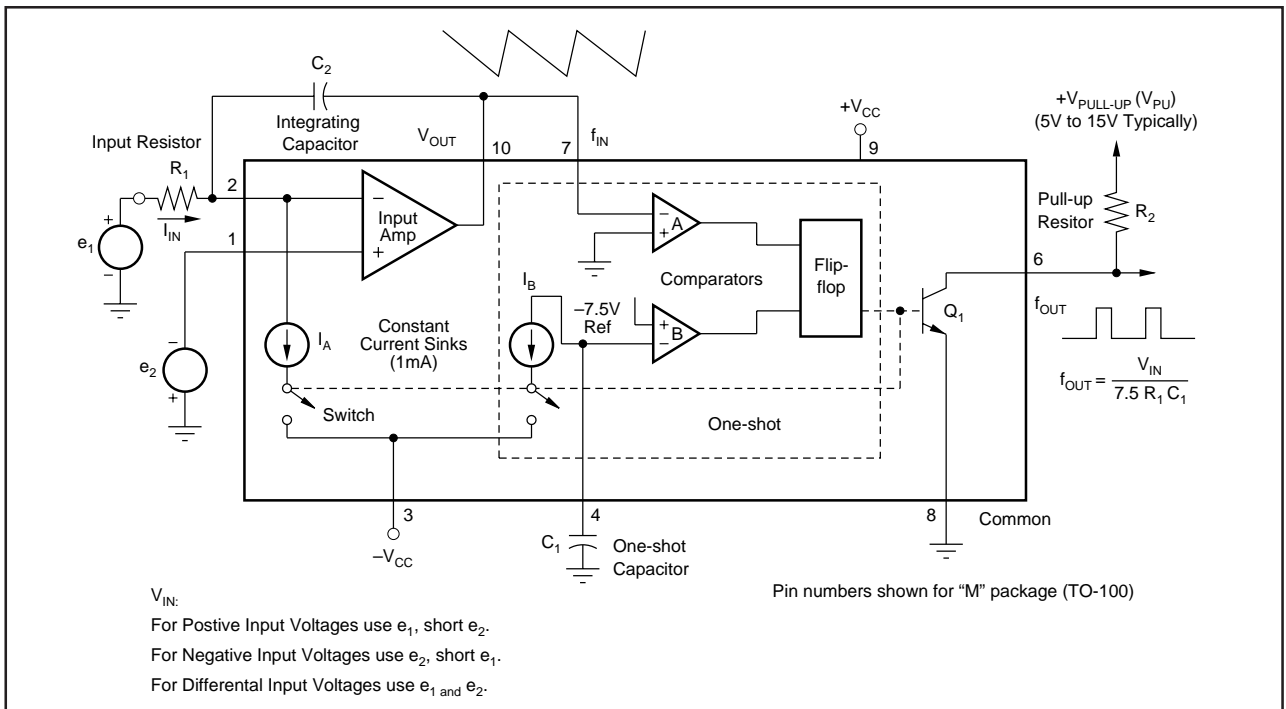
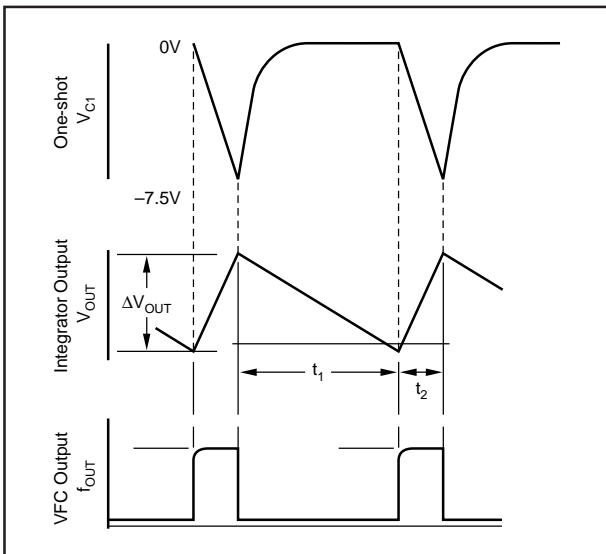

FIGURE 4. Functional Block Diagram of the VFC320.
FIGURE 5. Integrator and VFC Output Timing.
V/F CONVERTER $f_{\text{OUT}} = V_{\text{IN}}/7.5 R_1 C_1$, Figure 4
The VFC320 monolithic voltage-to-frequency converter provides a digital pulse train output whose repetition rate is directly proportional to the analog input voltage. The circuit shown in Figure 4 is composed of an input amplifier, two comparators and a flip-flop (forming a on-shot), two switched current sinks, and an open collector output transistor stage. Essentially the input amplifier acts as an integrator that produces a two-part ramp. The first part is a function of the input voltage, and the second part is dependent on the input voltage and current sink. When a positive input voltage is applied at V_{IN} , a current will flow through the input resistor, causing the voltage at V_{OUT} to ramp down toward zero, according to $dV/dt = V_{IN}/R_1C_1$. During this time the constant current sink is disabled by the switch. Note, this period is only dependent on V_{IN} and the integrating components.
The transfer function for the VFC320 is derived for the circuit shown in Figure 4. Detailed waveforms are shown in Figure 5.
In general, the design sequence consists of: (1) choosing f_{MAX} , (2) choosing the duty cycle at full scale ($D_{FS} = 0.25$ typically), (3) determining the input resistor, R_1 (Figure 4), (4) calculating the one-shot capacitor, C_1 , (5) selecting the integrator capacitor C_2 , and (6) selecting the output pull-up resistor, R_2 .